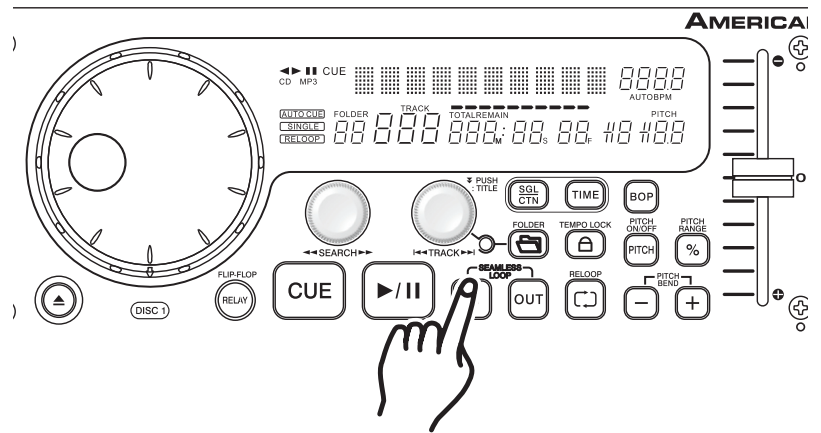

Figure 34
- 2) Press the *IN BUTTON* (17) (Figure 34) at the point you want your BOP to take place.